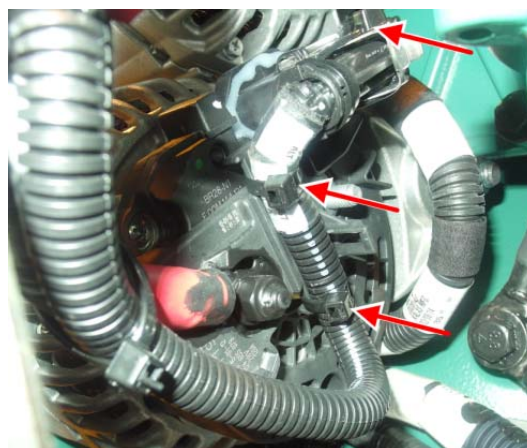

FIGURE 22
29. On the lower alternator, plug alternator harness onto alternator connector and secure using nylon cable ties P/N 504637 positioned as shown by red arrows on **FIGURE 22**.